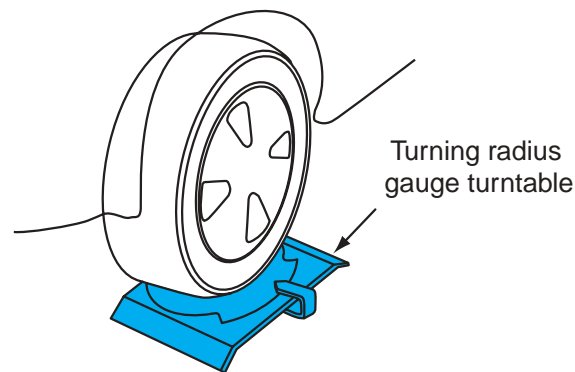

Figure 13-25 All four wheels must be on radius gauge turntables with the wheels straight ahead and the turntables in the zero-degree position.
1. Drive the vehicle on an alignment rack, and place all four wheels on turning radius gauge turntables. Be sure the wheels are in the center of the turntables with the wheels straight ahead and the turntables in the zero-degree position (Figure 13-25).